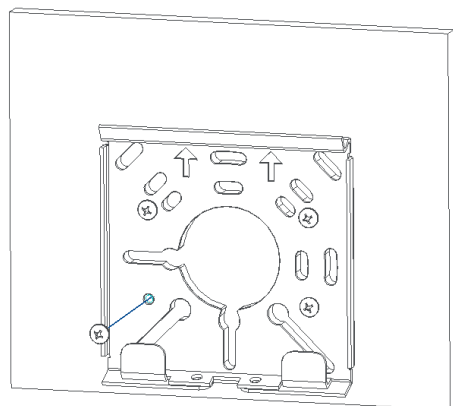

Figure 17
2. Attach the mounting bracket to the AWS using the four provided screws (Figure 17).